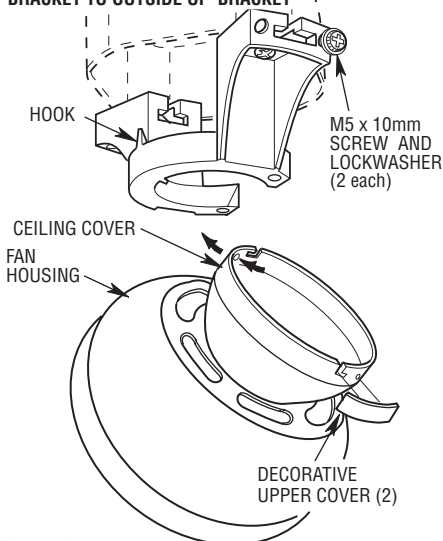

Figure 14
- 1. For close-to-the-ceiling mounting, the two decorative upper covers must be removed before installation to hanger bracket (Figure 14).
- 2. Carefully lift the fan assembly up to the hanger bracket. Pass the hook on the hanger bracket through one of the screw holes (not the slots) in the ceiling cover (Figure 14). The hook must pass from the inside of the ceiling cover to the outside. The hook will hold the fan assembly while connecting the wiring.
- 3. Loosely install two M5 x 10mm screws and lockwashers (supplied) in hanger bracket at this time. The remaining two lockwashers and screws will be installed after the ceiling fan is hung (Figure 14).